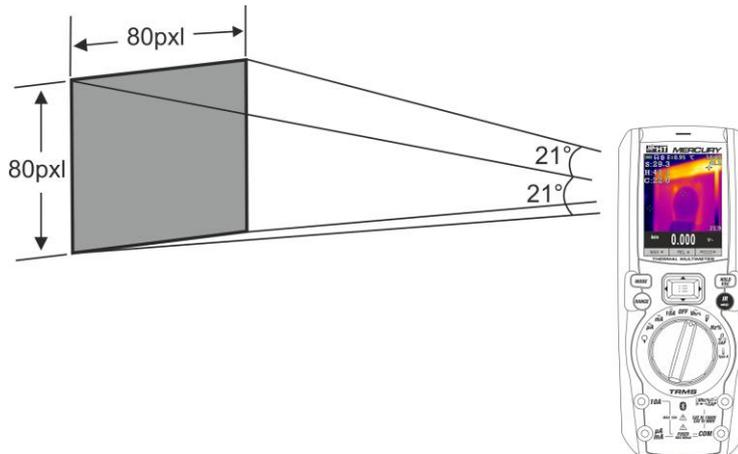

Fig. 39: Representation of the field of view (FOV) of MERCURY
7. For accurate temperature measurements, make sure the surface of the measured object is always bigger than the surface measurable by the instrument, which is given by the instruments field of view (FOV). MERCURY has a field of view of 21° x 21° and a detection vector of 80x80 (6400) pxl, as described in Fig. 39